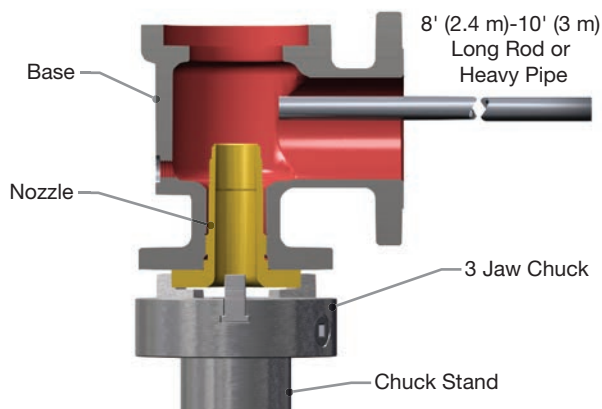

Figure 17: Loosening the Nozzle from the Base
18. Using a three- or four-jaw chuck welded vertically to a stand bolted to a concrete floor, clamp the nozzle (2) into the chuck and break the body loose with a heavy rod or pipe (see Figure 17).